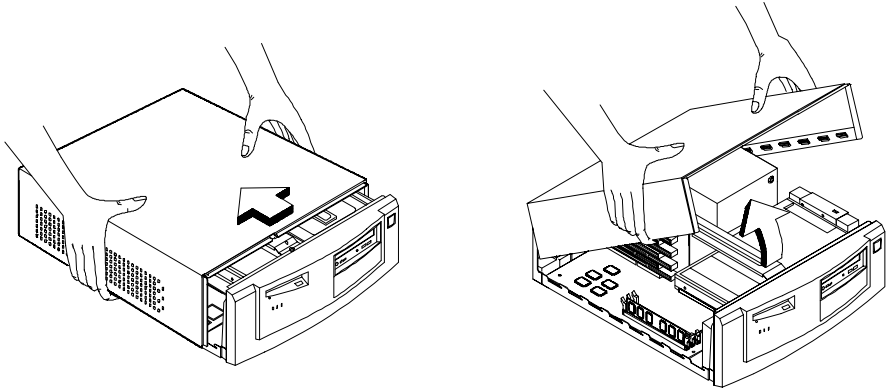

Figure 4-3 Removing the Housing Cover
4. Push the housing cover slightly backward as indicated in Figure 4-3.